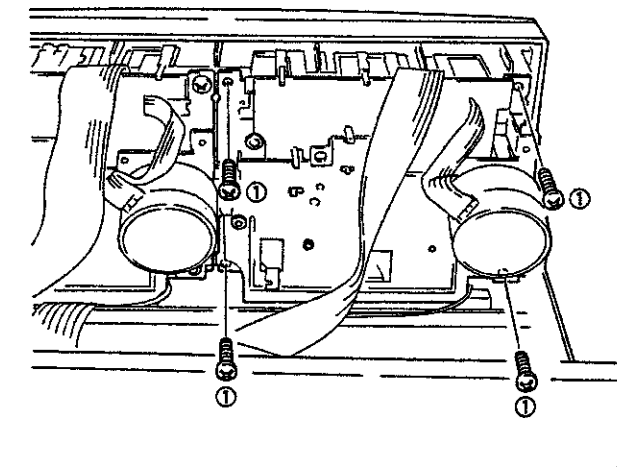

Fig. 3
4. Remove four screws (B) from back side and remove the mechanical unit. (Fig. 3.)